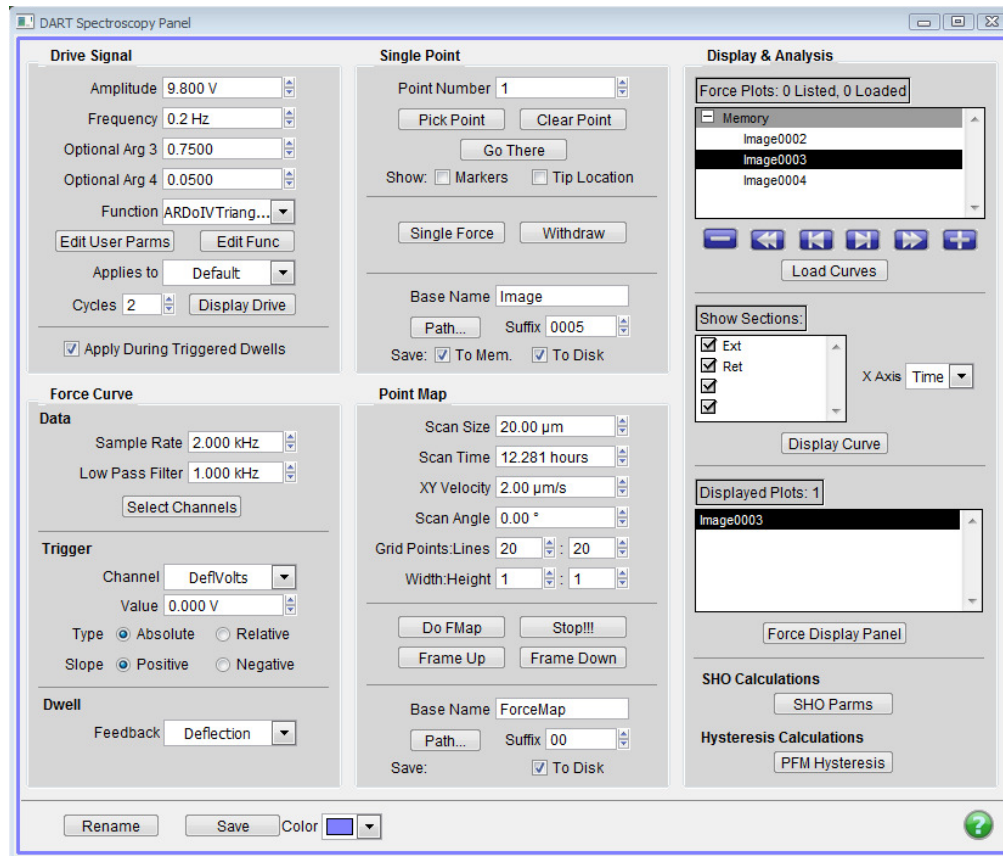

Figure 8.3.: The DART Spectroscopy Panel
2. On the Spectroscopy Panel panel (Figure 8.3 on page 108), go to the *Drive Signal* group of controls.